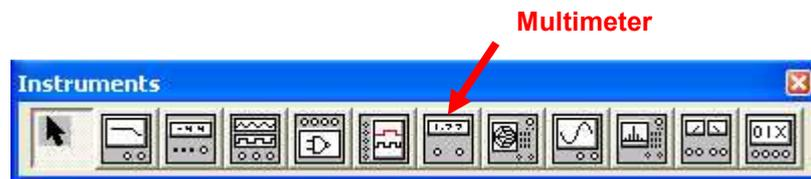

Figure. 13: Instruments Toolbar
- a. Select **View**→**Toolbar**→**Instruments**. The Instruments toolbar will open as shown in Fig. 13.